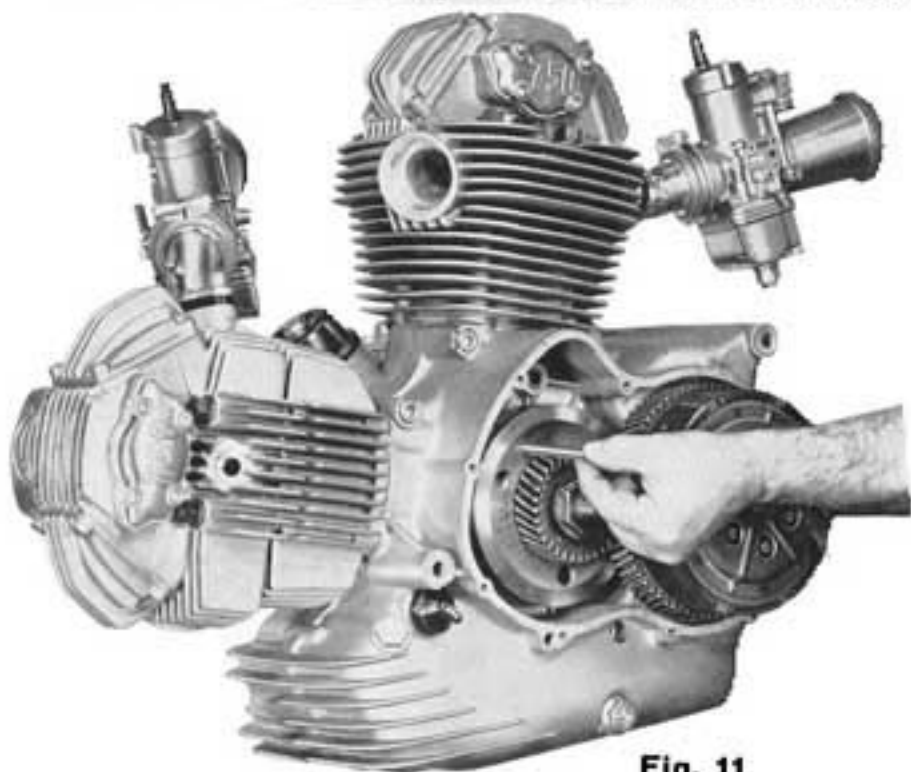

Fig. 11
a) Ignition generator (Fig. 11)
- 6 - Insert a pin in the small hole on the flywheel magnet of the electronic generator and displace the plate till the pin enters in the corresponding back-plate hole (see Fig. 11).